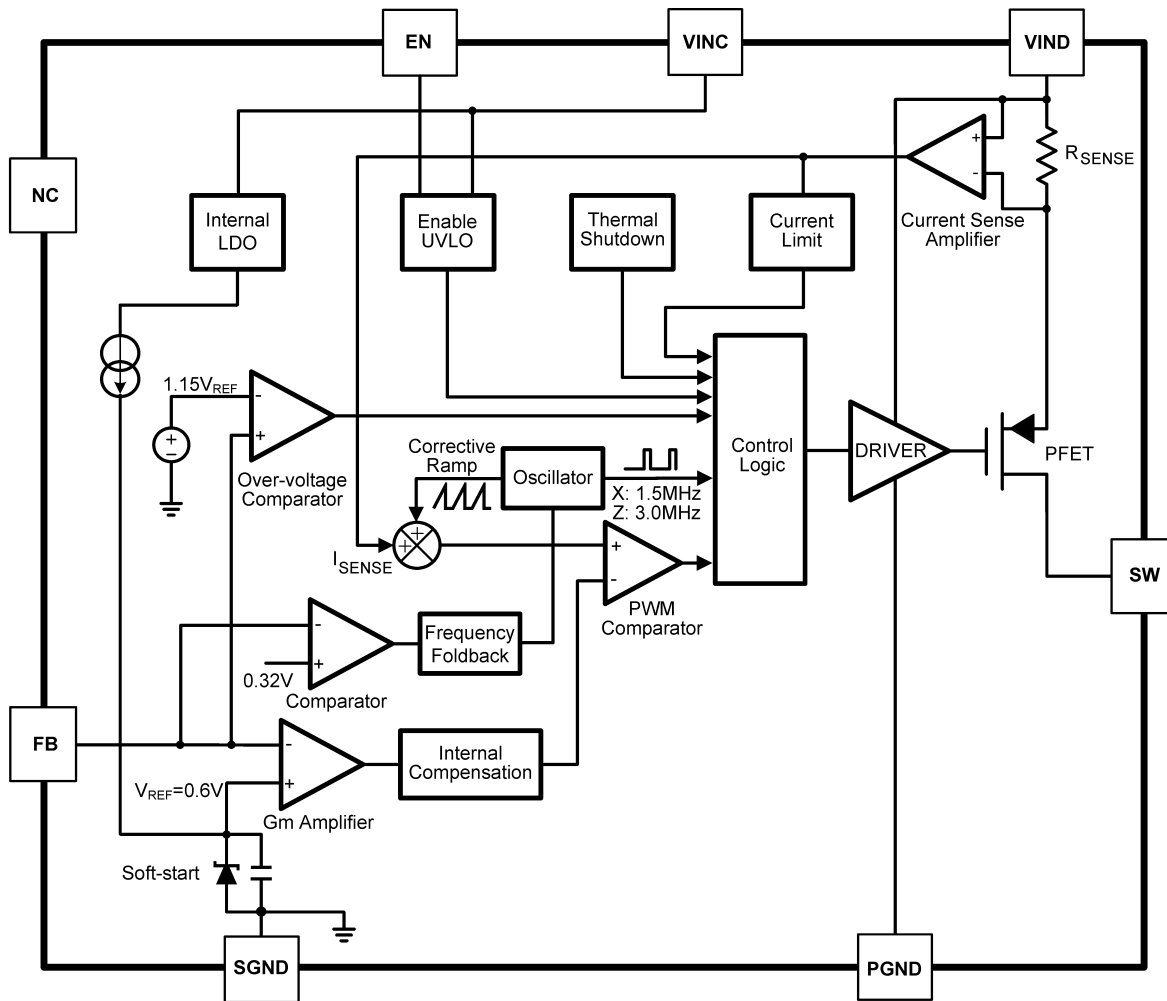
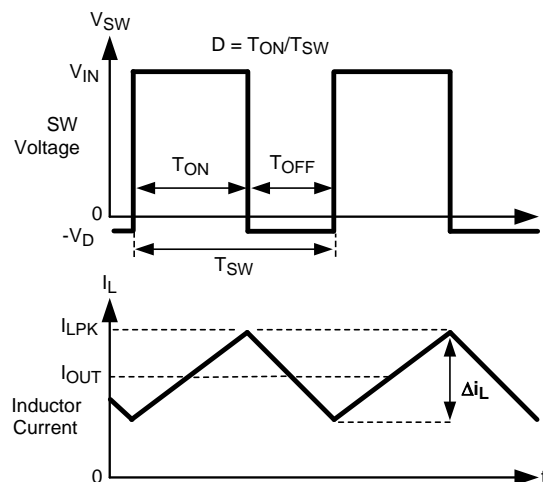

Figure 25. Simplified Block Diagram
Figure 26. SW Pin Voltage and Inductor Current Waveforms
The LM2833 is a constant frequency PWM buck regulator IC that delivers a 3.0A load current. The regulator is available in preset switching frequencies of 1.5MHz or 3.0MHz. This high frequency allows the LM2833 to operate with small surface mount capacitors and inductors, resulting in a DC/DC converter that requires a minimum amount of board space. The LM2833 is internally compensated, therefore it is simple to use and requires few external components. The LM2833 uses peak current-mode control to regulate the output voltage. The following description of operation of the LM2833 will refer to the Typical Application Circuit, to the waveforms in Figure 26 and simplified block diagram in Figure 25. The LM2833 supplies a regulated output voltage by switching the internal PMOS power switch at a constant frequency and variable duty cycle. A switching cycle begins at the falling edge of the reset pulse generated by the internal oscillator. When this pulse goes low, the output control logic turns on the internal PMOS power switch. During this on-time, the SW pin voltage ( $V_{SW}$ ) swings up to approximately  $V_{IN}$ , and the inductor current ( $I_L$ ) increases with a linear slope.  $I_L$  is measured by the current sense amplifier, which generates an output proportional to the switch current. The sense signal is summed with the regulator's corrective ramp and compared to the error amplifier's output, which is proportional to the difference between the feedback voltage and  $V_{REF}$ . When the PWM comparator output goes high, the internal power switch turns off until the next switching cycle begins. During the switch off-time, the inductor current discharges through the catch diode D1, which forces the SW pin to swing below ground by the forward voltage ( $V_D$ ) of the catch diode. The regulator loop adjusts the duty cycle (D) to maintain a constant output voltage.
The inductor value determines the output ripple current ( $\Delta i_L$ , as defined in Figure 26). Lower inductor values decrease the size of the inductor, but increase the output ripple current. An increase in the inductor value will decrease the output ripple current. In general, the ratio of ripple current to the output current is optimized when it is set between 0.2 and 0.4 for output currents above 2A. This ratio  $r$  is defined as: